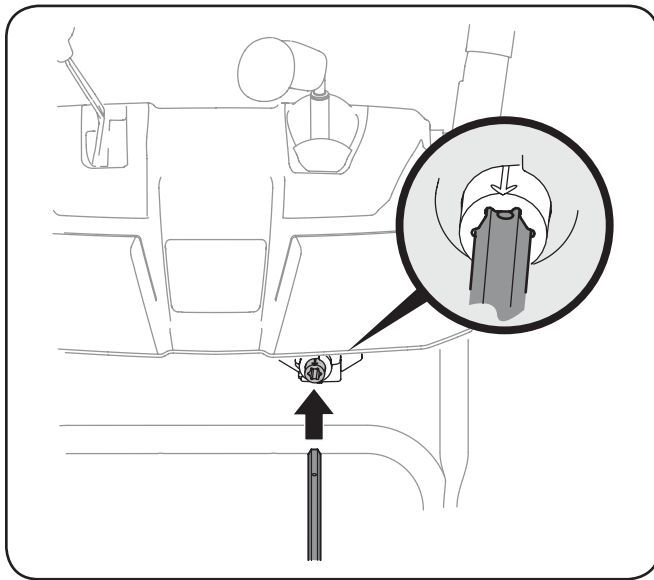

Figure 3-8
6. Insert the chute control rod into the pinion gear below the joystick. Make sure to line up the hole in the rod with the arrow on the pinion gear. See Fig. 3-8.